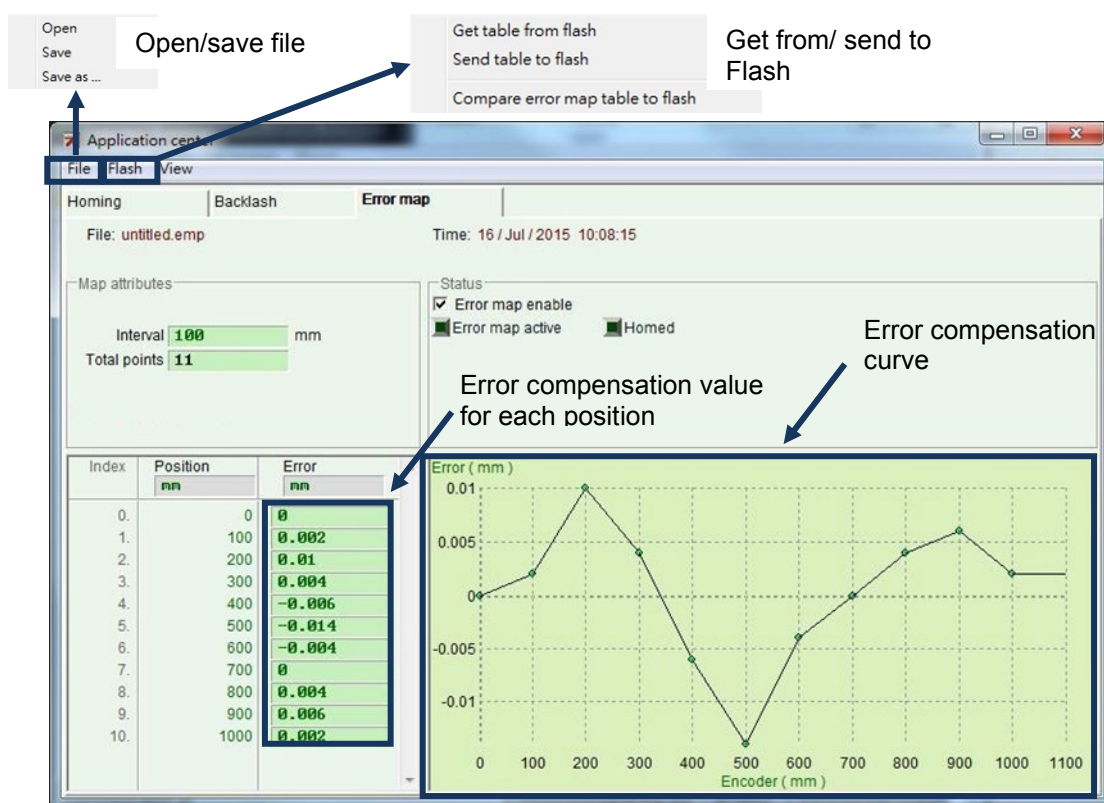

Figure 6.9.1.1 Error map window
Step 1: Go to the application center and select the “Error Map” tab to open the window of error map function, as shown in figure 6.9.1.1.
Step 2: Set the compensation interval (“Interval”) and total compensation points (“Total points”), and then enter the error compensation value into the “Error” field. If a different custom unit is needed, click the unit field to set different unit. Taking the example of figure 6.9.1.2, the compensation range is from 0 to 1,000 mm, the compensation interval is 100 mm, and the total compensation point is 11 points. The value in the “Error” field is obtained from the error measurement of laser interferometer. For example, when the target position is 100 mm, the laser measurement returns to 100.002 mm.